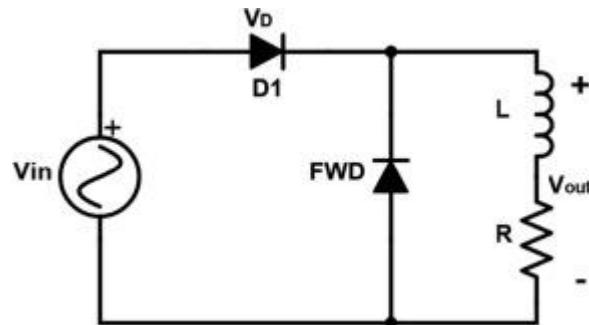

Figure 2.7 - Single-phase half wave uncontrolled rectifier circuit with RL load and freewheeling diode
7. Connect freewheeling diode parallel to RL load as shown in Figure 2.7.